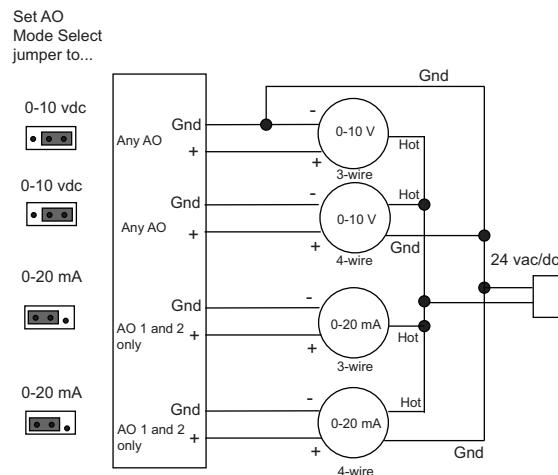

Fig. 4 — Connect Analog Output Wiring to Screw Terminals
5. Connect the analog output wiring to the screw terminals on the UC Open XP and to the controlled device. See Fig. 4 for the analog output wiring terminals.